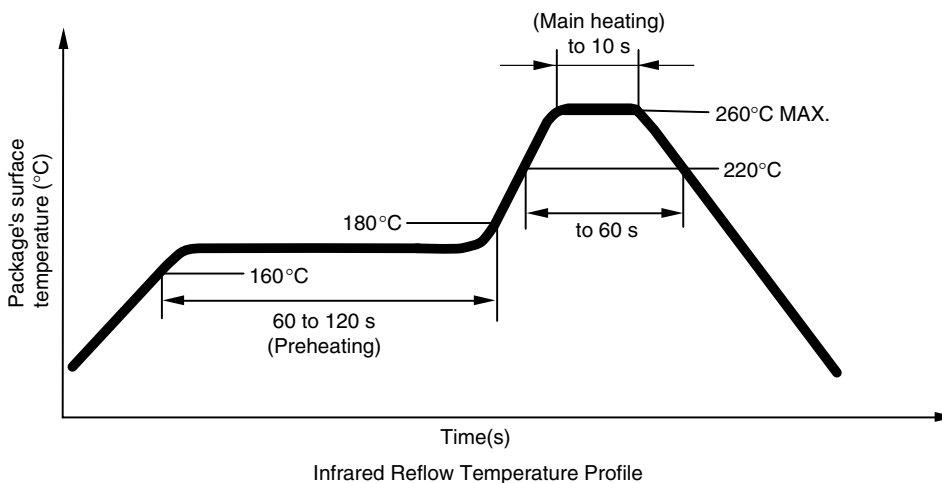

Figure 2 The example of the Mounting Pad
7. Please refer to Figure 2 as an example of the Mounting Pad. Optimize the land pattern in consideration of density, appearance of solder fillets, common difference, etc in an actual design.